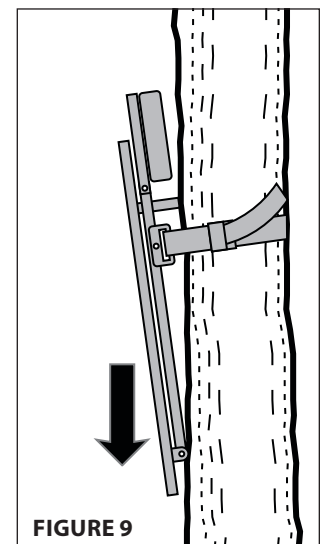

FIGURE 9
d. While platform is still folded up, push treestand in a downward direction to further tighten strap. **SEE FIGURE 9**